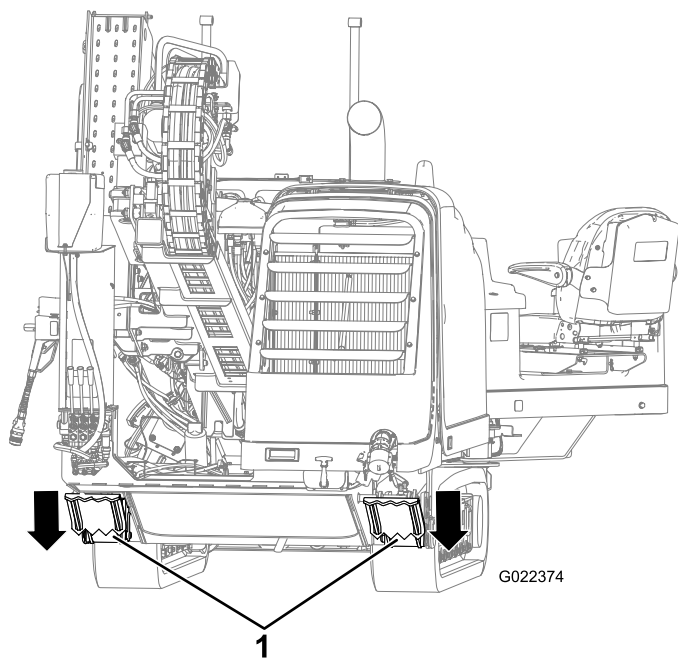

Figure 45
5. Lower the rear stabilizers until they contact the ground firmly, or until the desired entry angle is achieved (Figure 45).